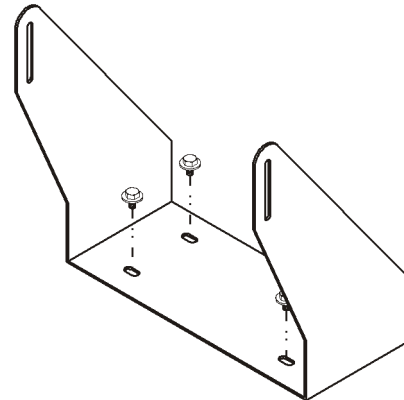

FIG. 3 INSTALLING THE SWIVEL MOUNT TO A HORIZONTAL SURFACE
- Step 1. Use four (4) 1/4 x 20 fasteners to fasten the swivel mount to a horizontal surface. (See Fig. 3)